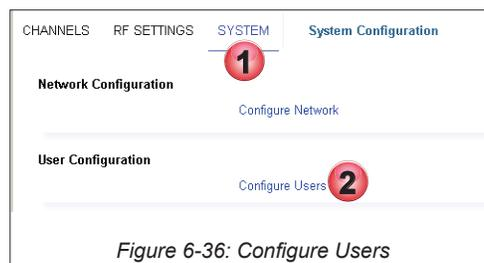

Figure 6-36: Configure Users
1. Click the **System** tab if it is not already selected, Figure 6-36.